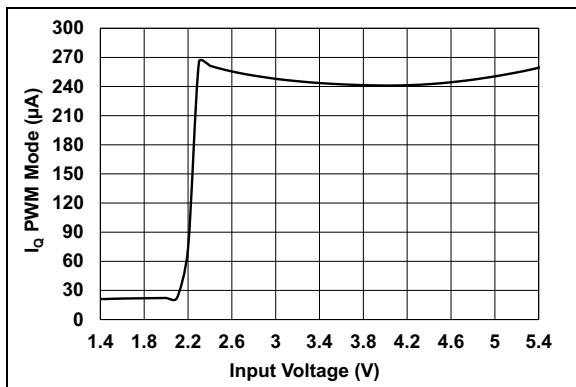

FIGURE 2-8: No Load Input Current, I_{INO} vs. V_{IN} ($EN = V_{IN}$).
- 2:** I_{IN0} varies with input and output voltage (Figure 2-8). I_{IN0} is measured on the V_{IN} pin when the device is switching (EN = V_{IN}), at no load, with $R_{TOP} = 120\text{ k}\Omega$ and $R_{BOT} = 1.05\text{ M}\Omega$.
- 2:** I_{IN0} varies with input and output voltage (Figure 2-8). I_{IN0} is measured on the V_{IN} pin when the device is switching ($EN = V_{IN}$), at no load, with $R_{TOP} = 120\text{ k}\Omega$ and $R_{BOT} = 1.05\text{ M}\Omega$.